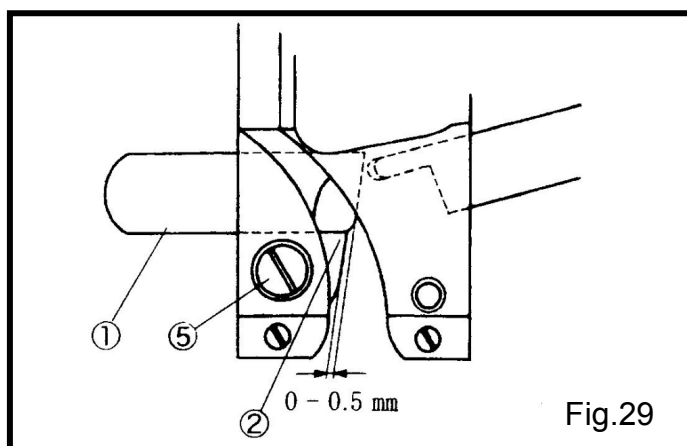

Fig.29
- (1) 底刀①的標準位置要留距離在底刀①尖端和鎖底刀座②之間 0-0.5mm。(Fig.29)
- (3) 放鬆螺絲④和⑤去調整上刀和底刀。(Fig.29, 31)
- (1) For the standard position of the lower knife ①, make the distance between the lower knife ① tip and the lower knife clamp ② to 0-0.5 mm. (Fig. 29)
- (3) Loosen the screws ④ and ⑤ to adjust the lower and upper knives respectively.(Fig.29 , 31)